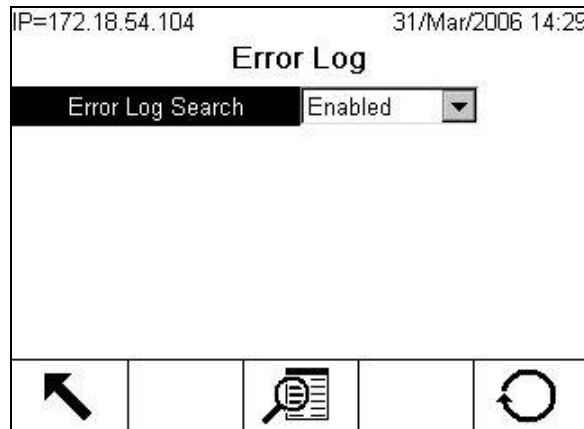

Figure C-39: Error Log Configuration Screen
1. Press the SETUP softkey  and select Maintenance > Configure > Error Log. The Error Log configuration screen (Figure C-39) displays.